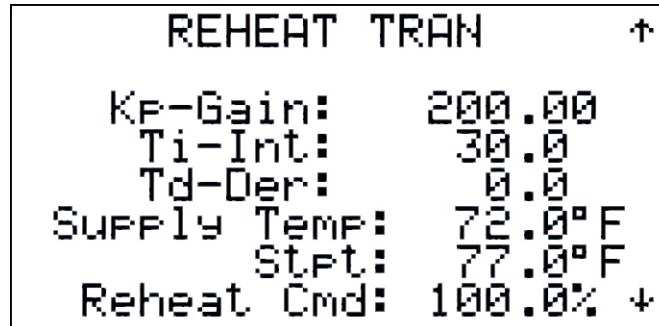

Figure 53
2.3.3.2.1 Reheat Settings (Figures 53 - 54)
Selecting REHEAT SETTINGS from the Tuning Menu displays the REHEAT TRAN screen shown in Figure 53. From this screen the user can adjust the PID terms for the reheat transition control loop.